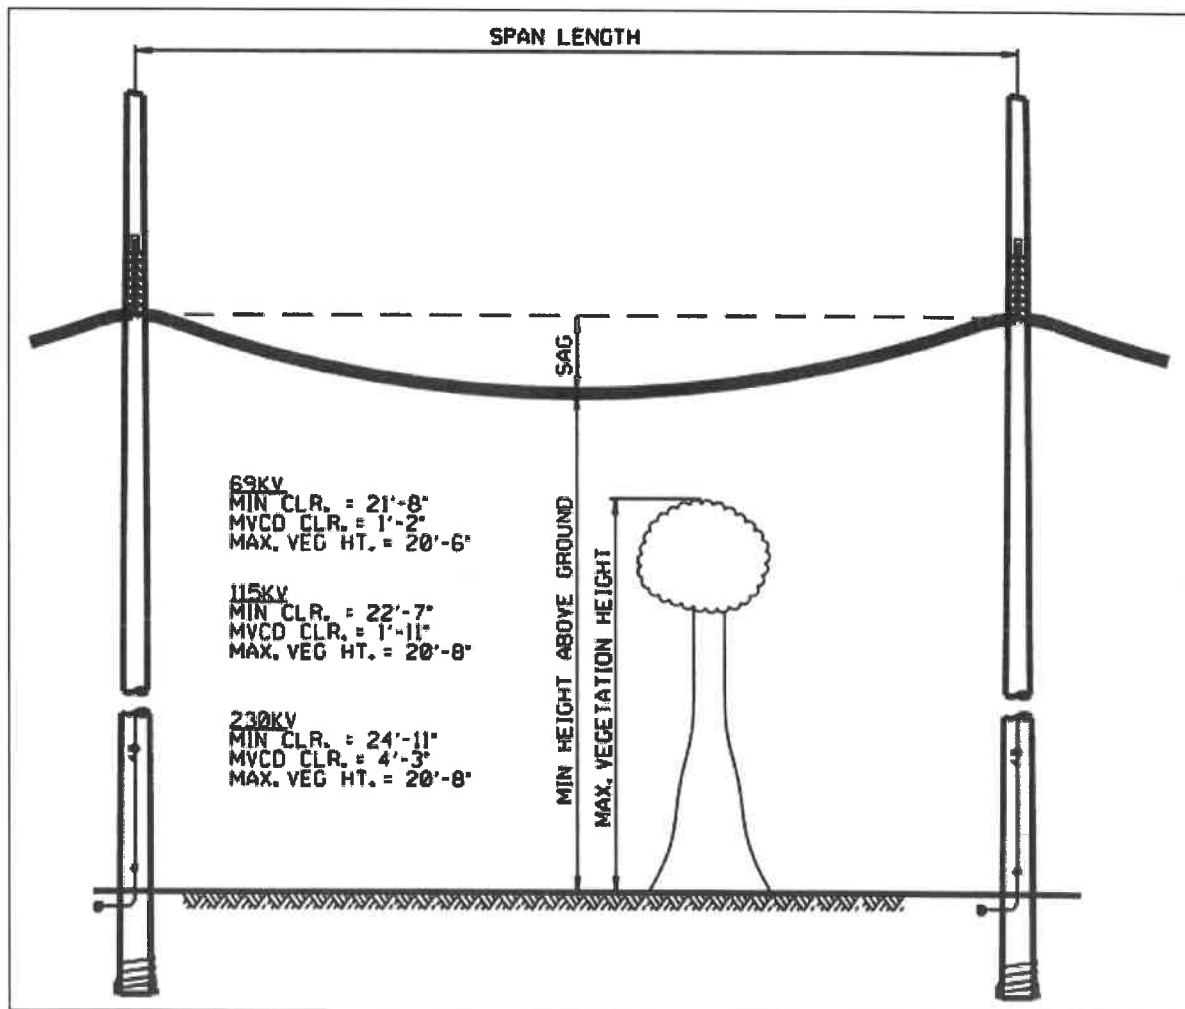

Figure 6. Explanation of Maximum Vegetation Height
- Reference Figure 6 (below) for graphically explanation of this methodology.